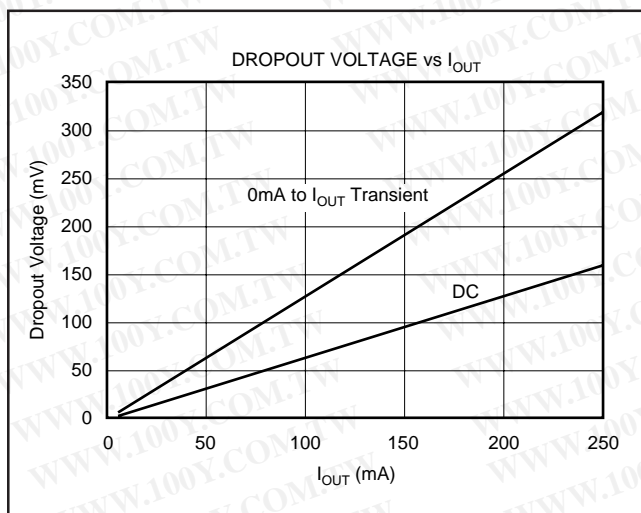

FIGURE 6. Transient and DC Dropout.
The REG102 uses an N-channel DMOS as the pass element. When  $(V_{IN} - V_{OUT})$  is less than the drop-out voltage ( $V_{DROP}$ ), the DMOS pass device behaves like a resistor; therefore, for low values of  $(V_{IN} - V_{OUT})$ , the regulator input-to-output resistance is the  $R_{DS(ON)}$  of the DMOS pass element (typically  $600m\Omega$ ). For static (DC) loads, the REG102 typically maintains regulation down to a  $(V_{IN} - V_{OUT})$  voltage drop of 150mV at full rated output current. In Figure 6, the bottom line (DC dropout) shows the minimum  $V_{IN}$  to  $V_{OUT}$  voltage drop required to prevent dropout under DC load conditions.
For large step changes in load current, the REG102 requires a larger voltage drop across it to avoid degraded transient response. The boundary of this transient drop-out region is shown as the top line in Figure 6 and values of  $V_{IN}$  to  $V_{OUT}$  voltage drop above this line insure normal transient response.